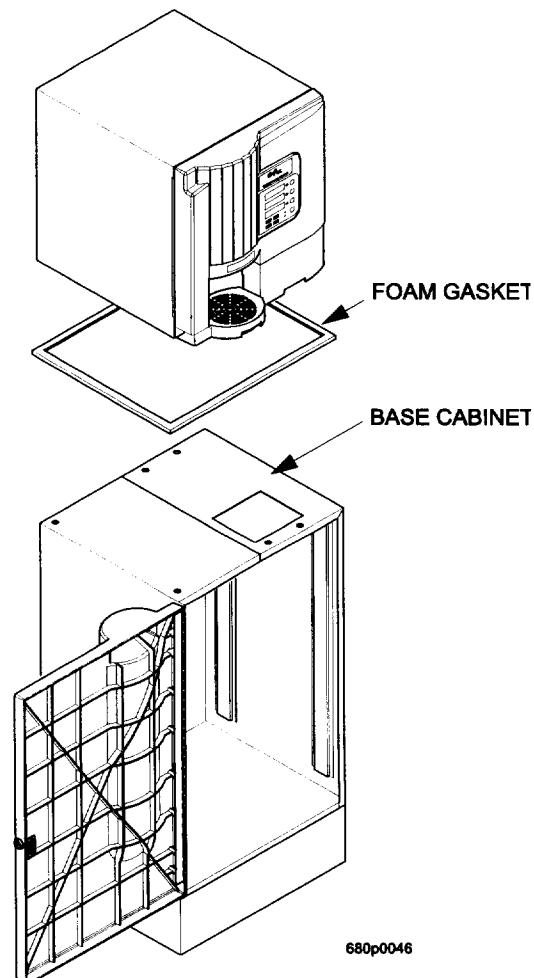

Figure 2
2. Peel the backing off the foam gasket (included with your machine in the bag assembly). Attach the foam gasket to the bottom perimeter of the machine, as far toward the edges as possible (figure 2).
3. Place the machine on top of the base cabinet making sure the front, left side and rear of the machine are flush with the base cabinet (figure 2).